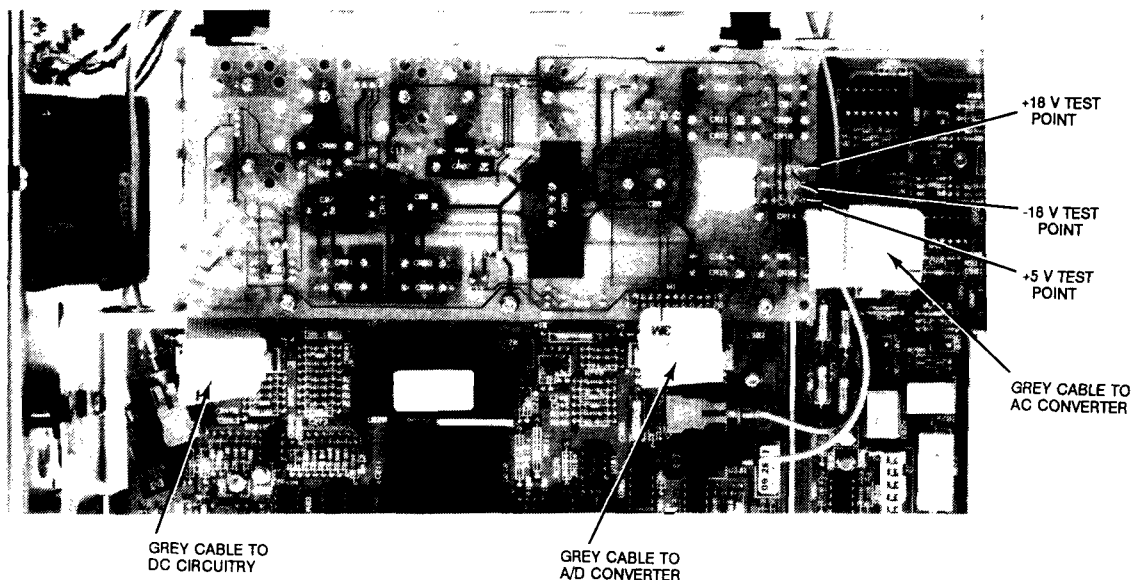

Figure 4-3. Inguard Power Supply
2. Refer to Figure 4-3. With the test digital multimeter, check for +5 V ($\pm$.05 V), +18 V ($\pm$ 1.8 V), and -18 V ($\pm$ 1.8 V) at the test points shown in the figure.
6. Refer to Figure 4-3 to locate the grey 20 pin cable that connects the Inguard Power Supply (A4) assembly to the DC Circuitry (A1) assembly. Unplug the cable at the power supply assembly.